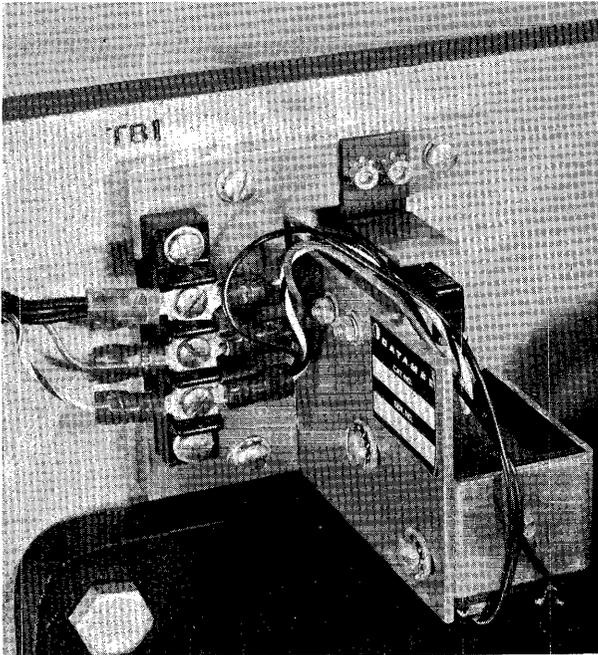

Figure 6-36
There are two adjustments on the File Protect; switch position and actuator travel (see Fig. 6-36).
Step 1: Mount the File Protect Unit on the rear of the transport as shown in Fig. 6-36. Do not tighten the screws.